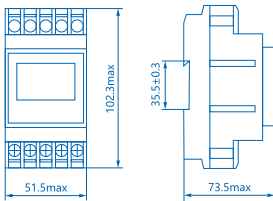
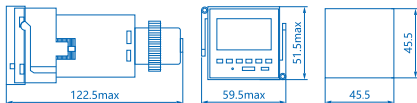

Figure 1 Outline and Installation Size of KG10D
Figure 2 Outline and Installation Size of KG10M
3.1 Outline and installation size: see Figure 1~ Figure 2, unit: mm.